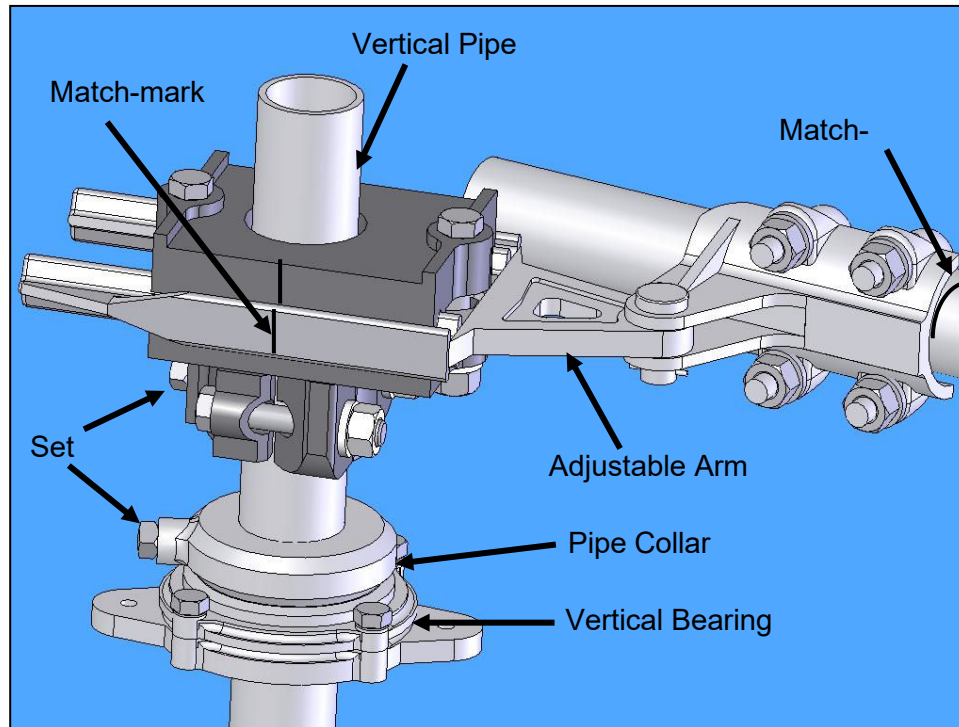
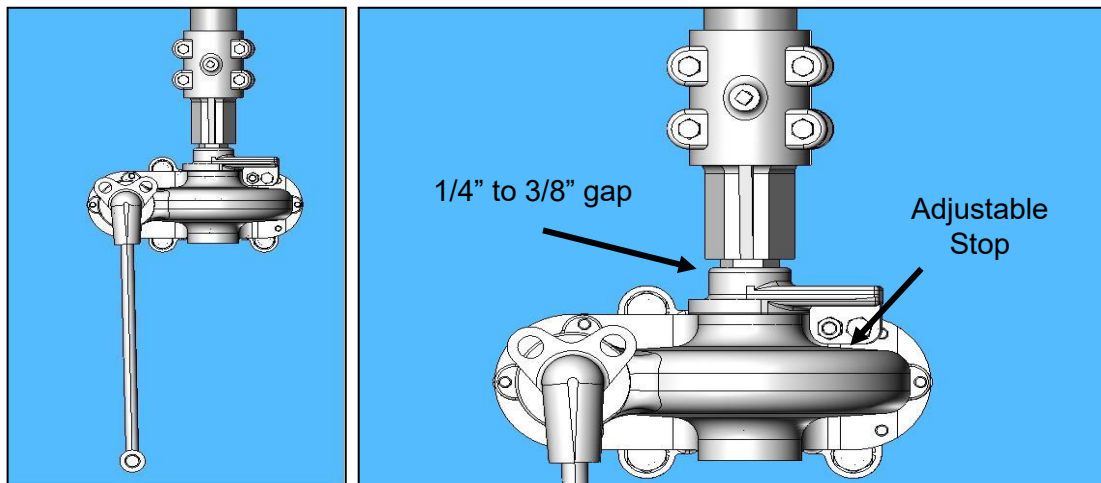

Figure 13: Typical Operating Arrangement
Figure 14: Type HOGO (High Output Geared Operator) Front View
⚠ CAUTION The pipe collar (above the vertical bearing) must support the entire weight of the vertical operating pipe. To prevent unnecessary component damage, **do not allow the pipe to rest on the switch operating device**. Refer to **Figure 13**.
- 2.1.1. The weight of the vertical operating pipe should be supported by pipe collar (**Figure 13**) by maintaining the 1/4" - 3/8" gap (**Figure 14**).
- 2.1.2. When the switch is properly adjusted the operator handle should hang freely in both the open and closed positions to permit the use of a customer supplied padlock. Refer to **Figure 14**.